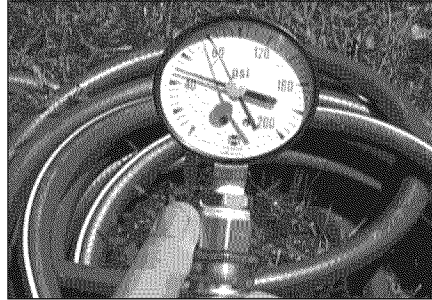

Figure 6 - Use a Water Pressure Gauge to make sure your home's water pressure is not too high.
- Water Pressure Gauge (Figure 6 on page 7)
We recommend checking your home's water pressure with a pressure gauge (Figure 6). Most codes allow a maximum incoming water pressure of 80 psi. We recommend a working pressure no higher than 50-60 psi.